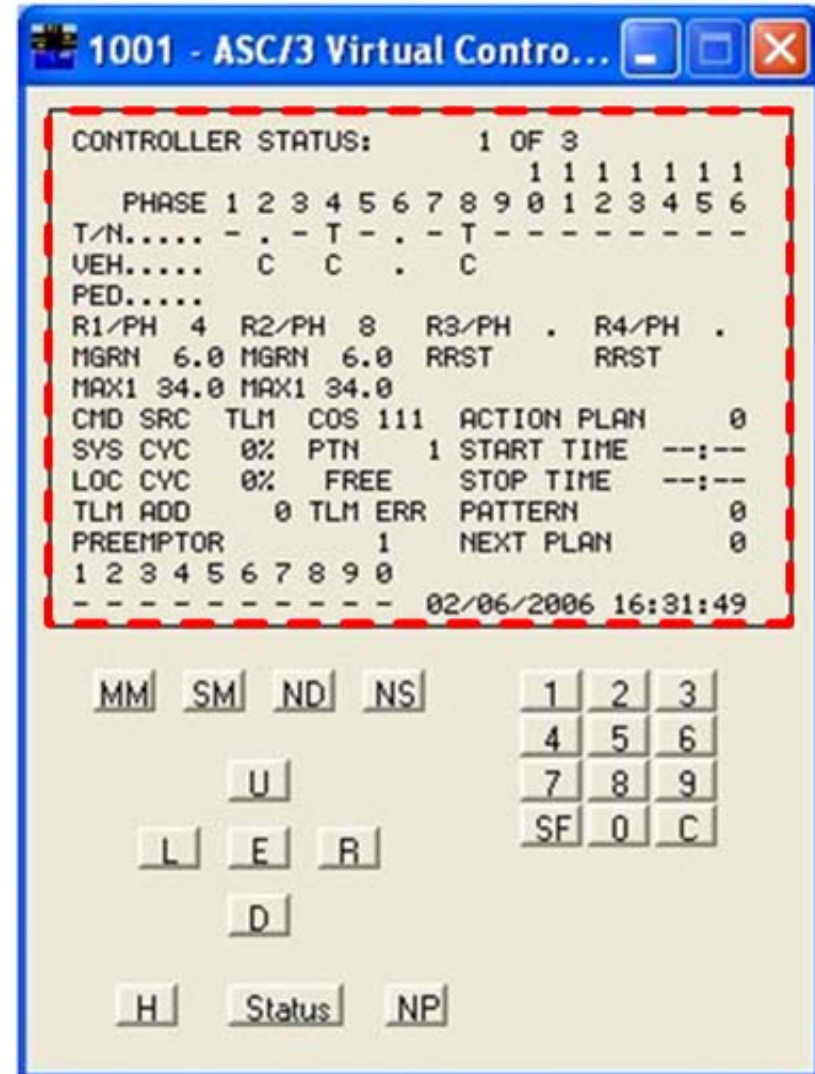

Figure 13 Controller Status
- The information describing the controller status is now shown in the controller panel (see upper part of Figure 13).
- The ASC/3 is a 4-ring (R1, R2, R3, and R4) controller with 16 phases (PH). We will only be using the controller in a 2-ring 8-phase mode of operation.